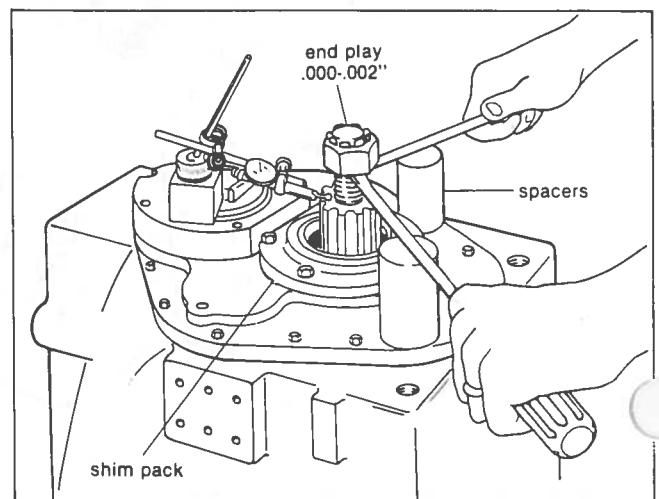

Fig. 36. Checking End Play on Output Shaft.
4. Install shim pack under bearing cap allowing .000-.002" end play (see fig. 36). Secure bearing cap with capscrews and washers.